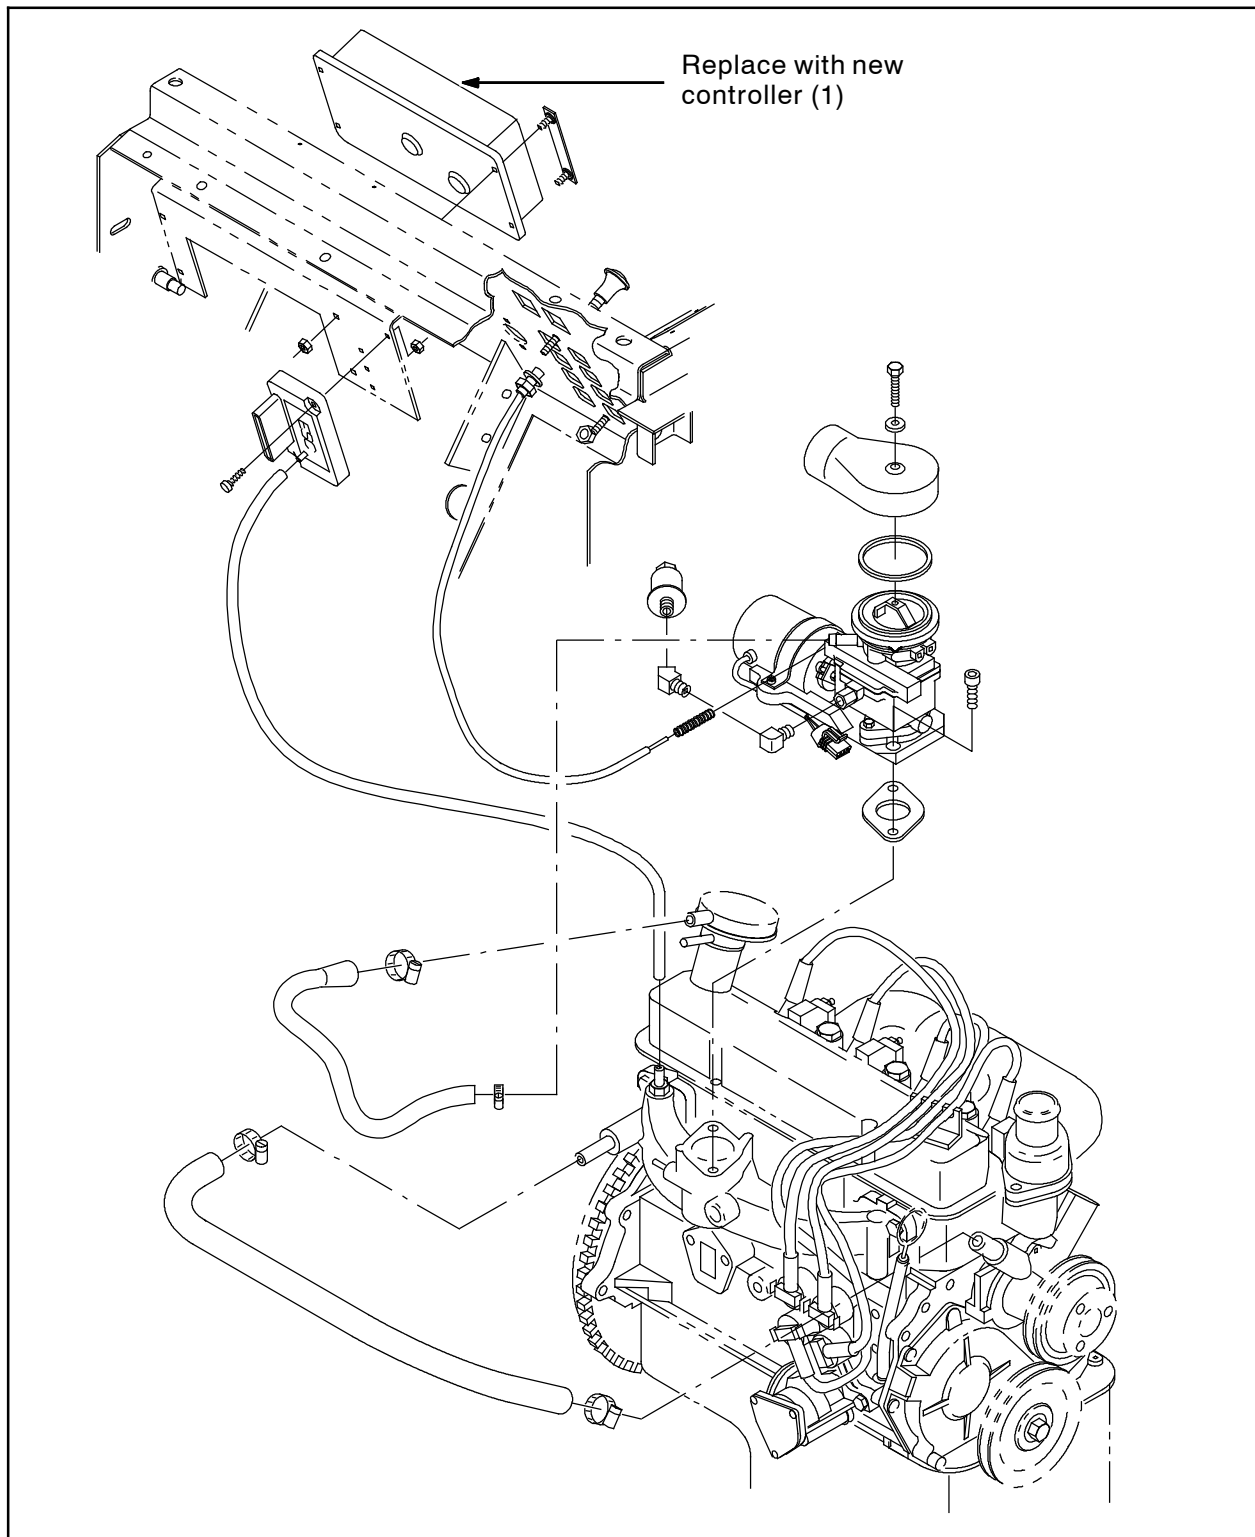

FIG. 11 - 8200 / 8210 Controller Location LP / Gas / Diesel
6. Locate the controller mounted under the control panel. (Fig. 11)
8. Set up the controller (1). Refer to the **SET UP NEW DIGITAL CONTROLLER** instructions for information to setup the controller.
10. Connect the main wire harness to the new controller (1). Do not secure the controller to the machine. The controller is secured to the machine after it is tested.
14. Install the controller onto the machine. (Fig. 11)
12. Install the controller onto the machine. (Fig. 11)